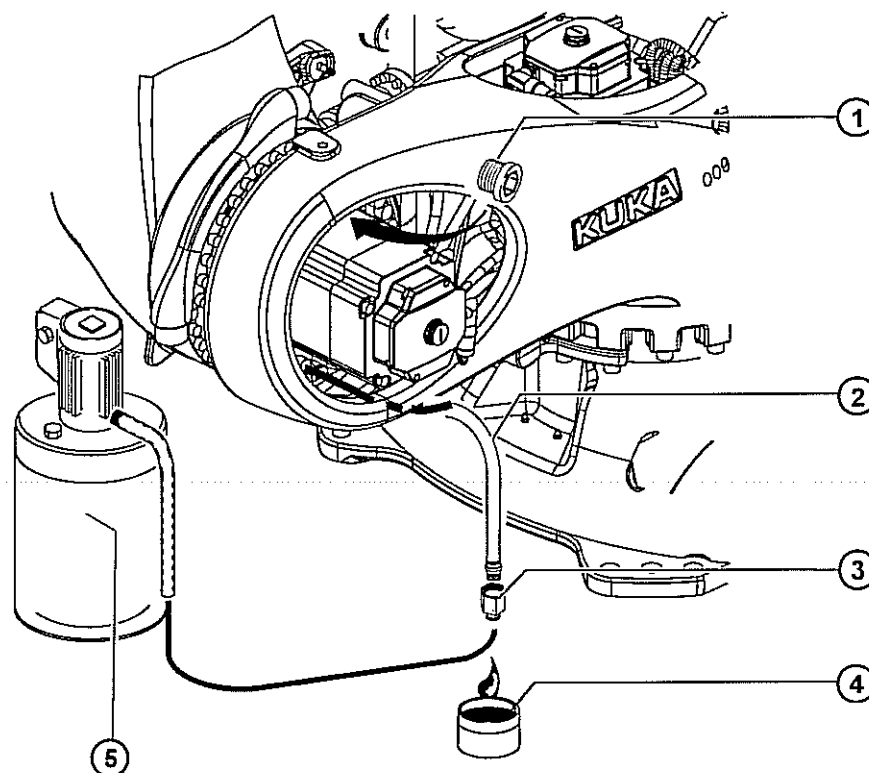

Fig. 10-3: Oil change, A2
1. Pull the oil drain hose (>>> Fig. 10-3) out of the rotating column.